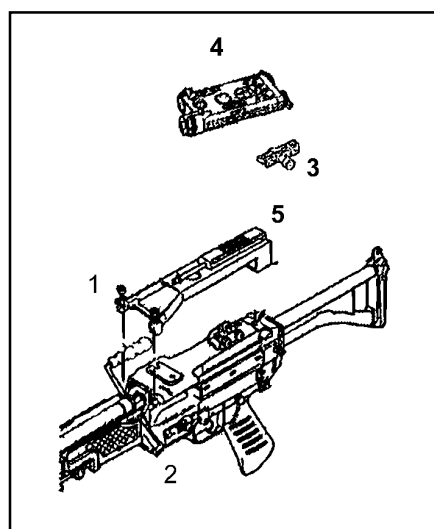

Figure G-18. Mounting the AN/PEQ-2A to the M249 using TWS bracket.
a. **TWS Mounting Bracket.** (See Figure G-18.)
- (1) Attach the rail grabber (3) (P/N 12598120) to the AN/PEQ-2A (4).
- (2) Loosen the knob on the AN/PEQ-2A rail grabber.
- (3) Select the slot on rail (5) for mounting. Any slot may be used as long as the mount does not hang over the edge of the rail.
- (4) Place the bar of the rail grabber (3) in the slot of the rail (5) and hand tighten the knob on mount until a clicking noise can be heard.